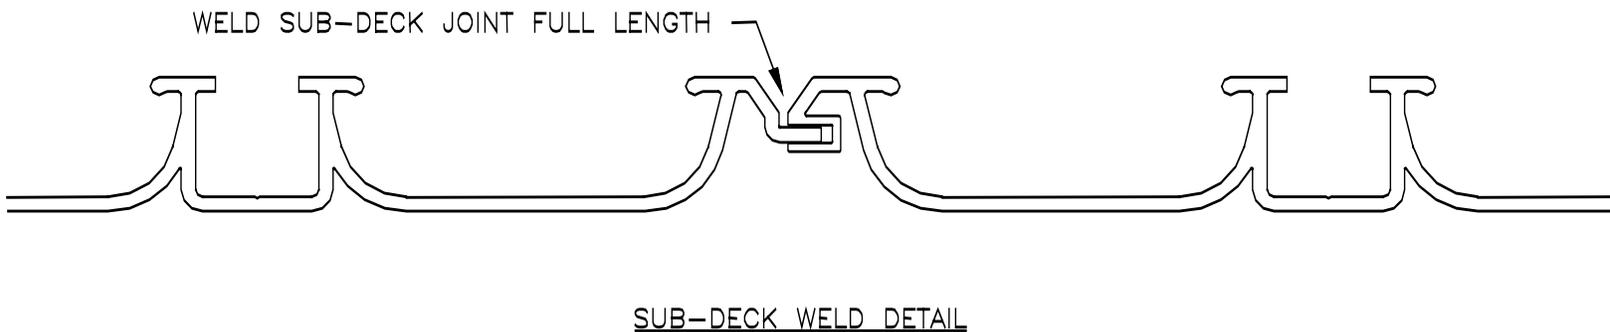

Figure 11
After the sub-deck has been fastened to the cross-members, side seals should be installed along each inside corner of the trailer, leaving a minimum of 3" between the edge of the outside sub-deck trough and the side seal. Install it in such a way that the corners of the trailer will be leak proof to at least 12 inches above the sub-deck. (See figure 11). Note that if there is less than 3" of clearance between the edge of the sub-deck and the side-seal, debris may wedge in between them and not clear out properly.
- 3) Full length weld along the seam between sections of the sub-deck. (See Figure 11). Before welding these seams, make sure that the trailer walls are attached to the cross members. If the seams are welded before the walls are attached, the sub-frame will bow.